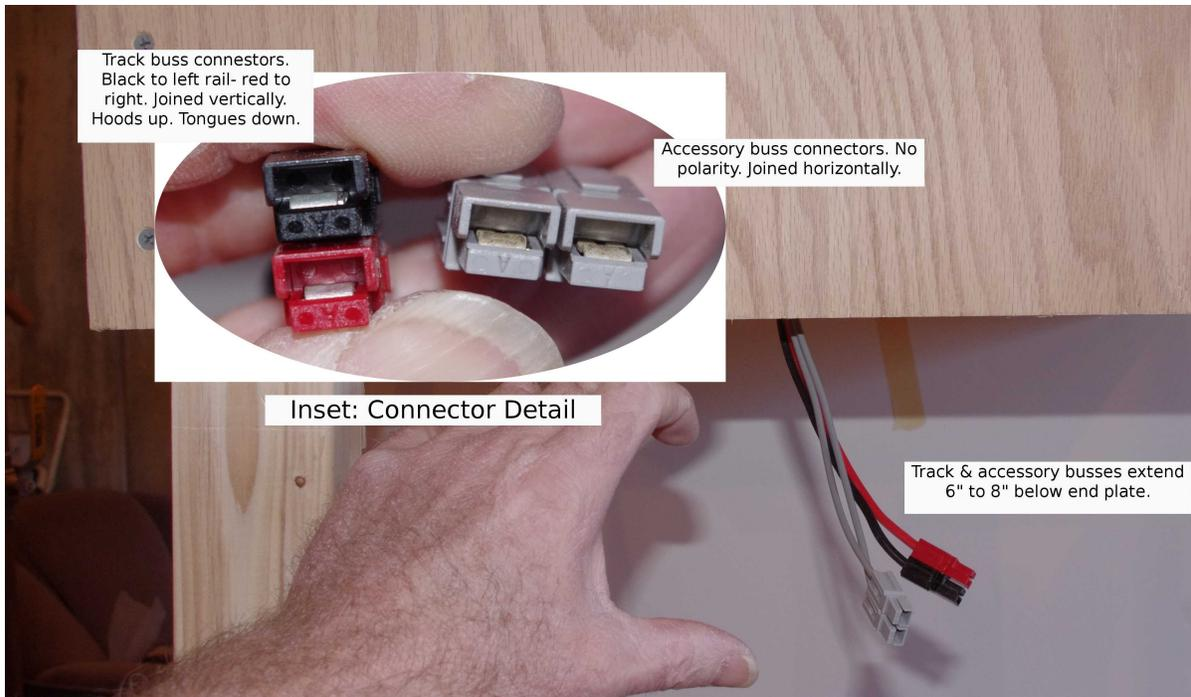

Figure 4.5.1 Single Track End Plate Interconnection Wire Drops
- RP4.5.1 Refer to Figure 4.5.1 for location, lengths and colors of module track/ rail and accessory buss connection wire drop relative lengths and locations.